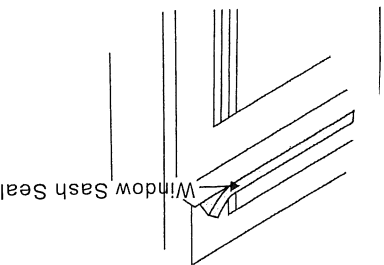

Fig. 18
1. Trim sash seal to fit window width. Insert into space between upper and lower sashes (Fig. 18).